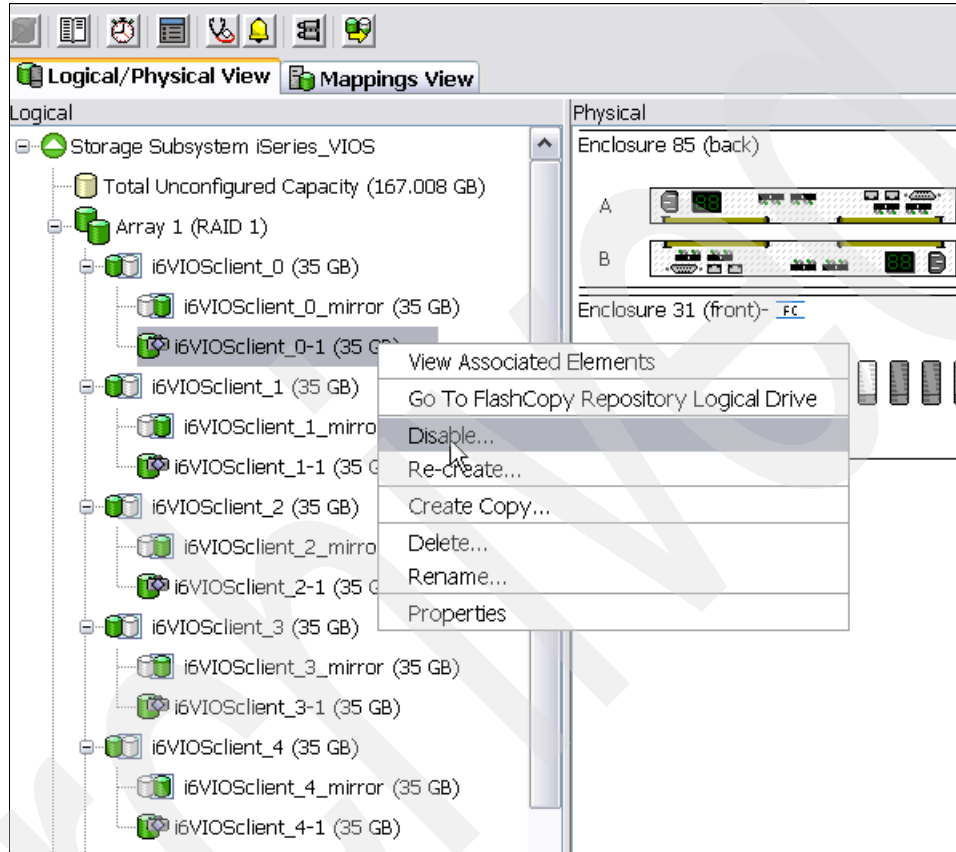
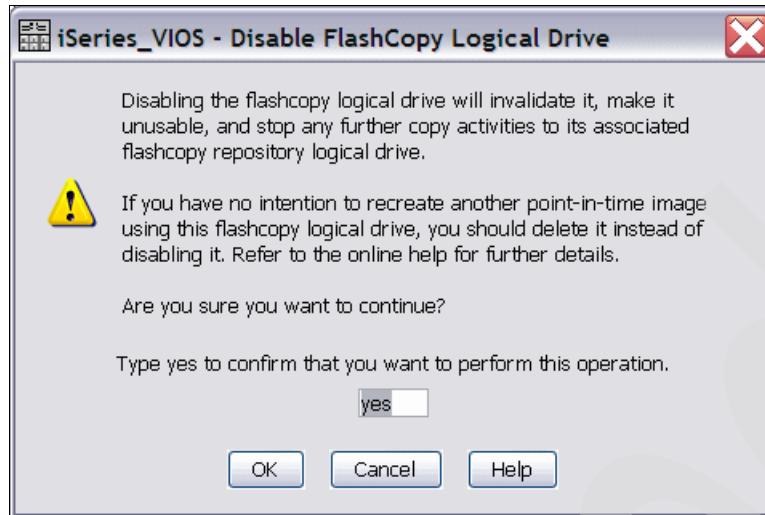

Figure 8-14 Disable FlashCopy logical drive
Figure 8-15 Conform disable of FlashCopy Logical drive
2. Use the DS Storage Manager. Double-click the relevant Storage System to open the Subsystem Management window Logical /Physical view. Right-click each FlashCopy logical drive of the production partition and select **Disable** from the pull-down, as shown in Figure 8-14. Confirm disabling of the logical drive by typing Yes in the confirmation window, as shown in Figure 8-15 on page 298.